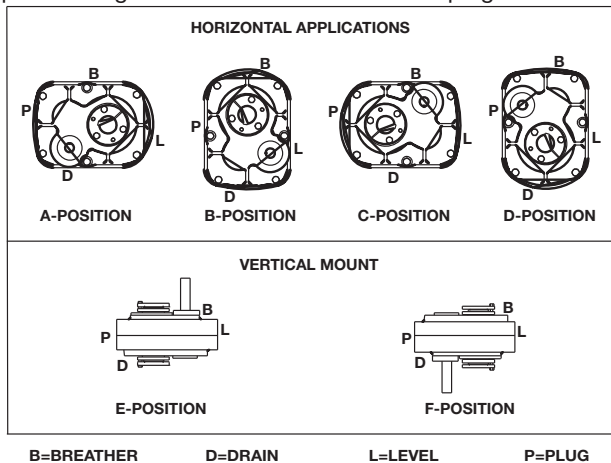

Figure 1 - Mounting Positions
2. Determine the mounting position of the reducer (Figure 1). Note that the reducer is supplied with either 4 or 7 plugs; 4 around the sides for horizontal installations and 1 on each face for vertical installations. These plugs must be arranged relative to the mounting positions as follows:
The running position of the reducer in a horizontal application is not limited to the four positions shown in Figure 1. However, if running position is over 20° either way in position "B" and "D", or 5° either way in position "A" or "C," the oil level plug cannot be safely used to check the oil level, unless during the checking the torque arm is disconnected and the reducer is swung to within 20° for position "B" or "D" or 5° for position "A" or "C" of the positions shown in Figure 1. Because of the many possible positions of the reducer, it may be necessary or desirable to make special adaptations using the lubrication fitting holes furnished along with other standard pipe fittings, stand pipes and oil level gauges as required.
① Oil quantity is approximate. Service with lubricant until oil runs out of oil level hole.
② Refer to Figure 1 for mounting positions.
③ US measure: 1 quart = 32 fluid ounces = .94646 liters.
④ Below 15 RPM output speed, oil level must be adjusted to reach the highest oil level plug (P). If reducer position is to vary from those shown in Figure 1, either more or less oil may be required. Consult Baldor Electric Company, Dodge Engineering, Greenville, SC.